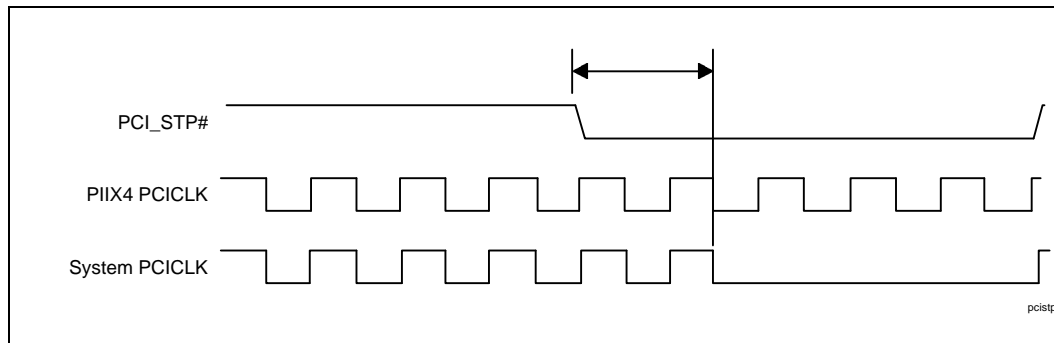

Figure 18. PCI Clock Stop Timing
Figure 18 and Figure 19 show the timing relationship for the control of system PCICLK. The system PCICLK timings must be followed exactly for proper operation of PC/PCI DMA or Serial IRQ logic. If PC/PCI DMA and Serial IRQs are not used in the system, the system PCICLK stop timings must meet the system developer's requirements.
2. See Figure 18 and Figure 19 for exact PCICLK requirements for use with PC/PCI DMA and Serial IRQs.
5. See Figure 18 and Figure 19 for exact PCICLK requirements for use with PC/PCI DMA and Serial IRQs.
3. See Figure 18 and Figure 19 for exact PCICLK requirements for use with PC/PCI DMA and Serial IRQs.